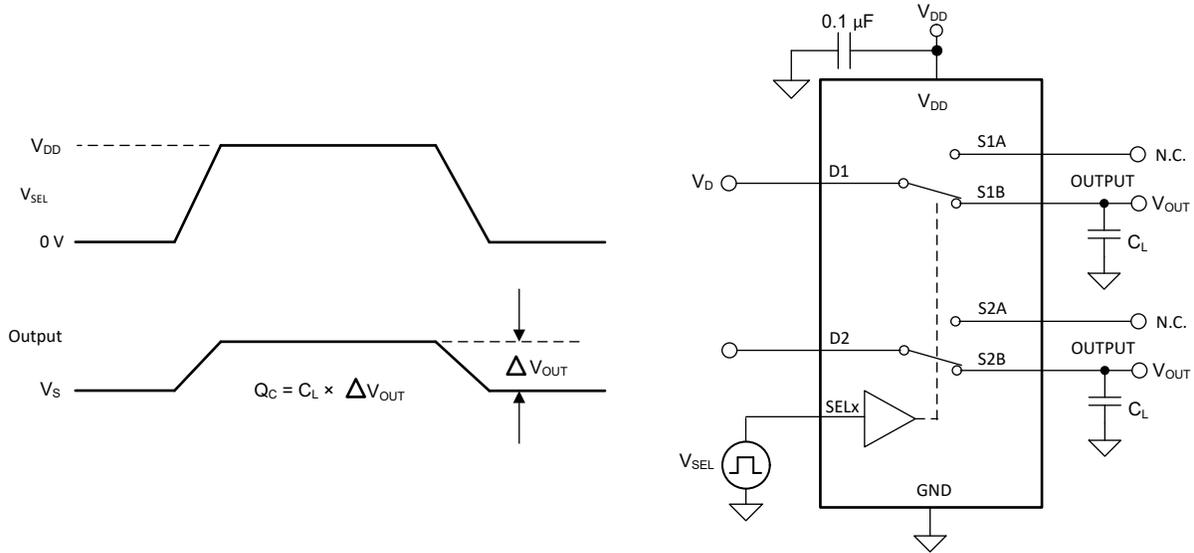

Figure 7-11. Charge-Injection Measurement Setup
Any mismatch in capacitance results in a charge injected into the drain or source during the falling or rising edge of the gate signal. The amount of charge injected into the source or drain of the device is known as charge injection, and is denoted by the symbol Q_C . Figure 7-11 shows the setup used to measure charge injection from Drain (D) to Source (Sx).